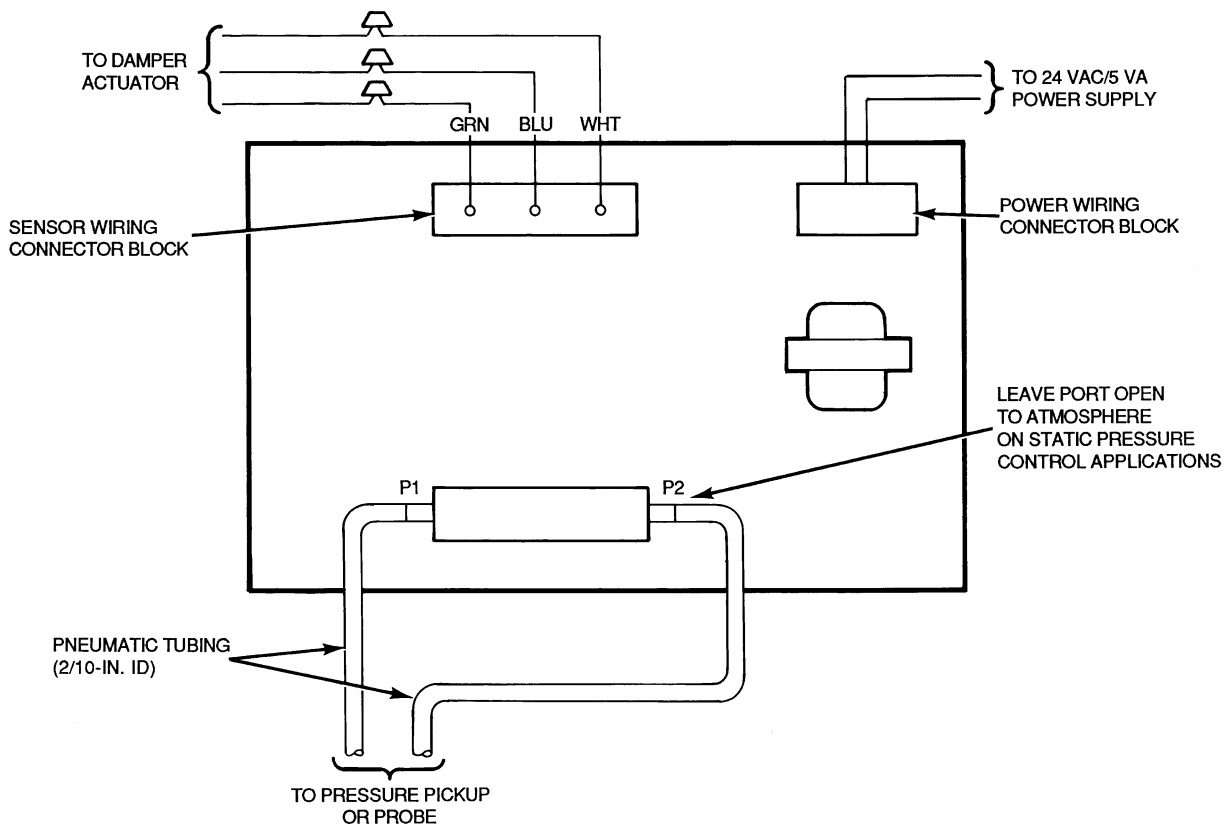

Fig. 1 — Pressure Sensor Tubing and Wiring
5. Install the static pressure pickup or velocity pressure probe in the desired location. Run the field-supplied 3/16 in. ID plastic tubing from the pressure pickup/probe to the pressure sensor. Static pressure control applications will only use port P1. Port P2 is not used for static pressure control applications and should remain open to the atmosphere. Pressure independent control applications will use both ports P1 and P2. See Fig. 1.
6. Wire the pressure sensor to the damper actuator using the sensor wiring harness, field-supplied wire, and 3 field-supplied wire nuts. Clip and secure the orange, red, and black wires of the 6-wire section of the sensor wiring harness on the damper circuit board. They are not used. Wire nut the white, blue, and green wires on the wiring harness of the pressure sensor to the field-supplied wiring and run to the damper actuator. Connect them to the white, blue, and green wires on the damper actuator wiring harness. See Fig. 1 and 2.
7. Wire the pressure sensor power wiring to a 24 vac, 5 va power supply. See Fig. 1.